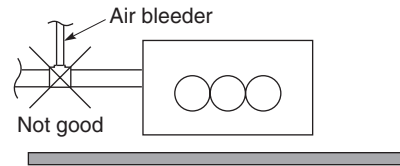

Fig. 1-110
- Do not install an air bleeder tube as this may cause water to spray from the drain pipe outlet. (Fig. 1-110)